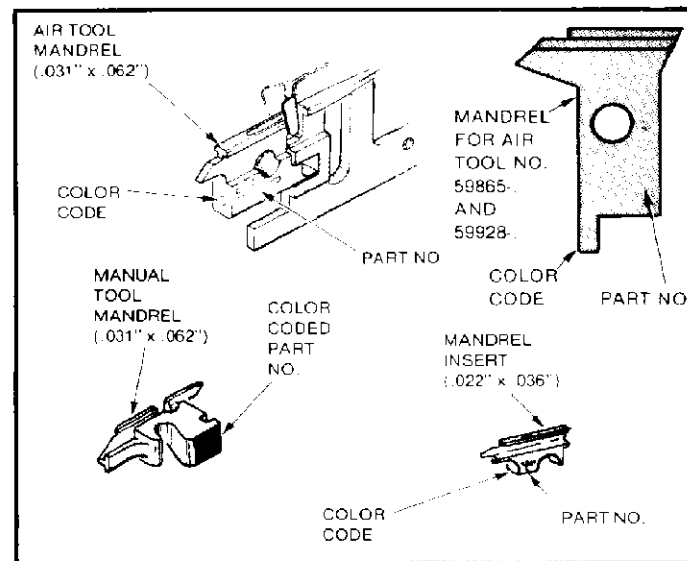

Figure 4
- Clip: The clip is identified by a colored dot or stripe on the crown of the clip. See Figure 4.